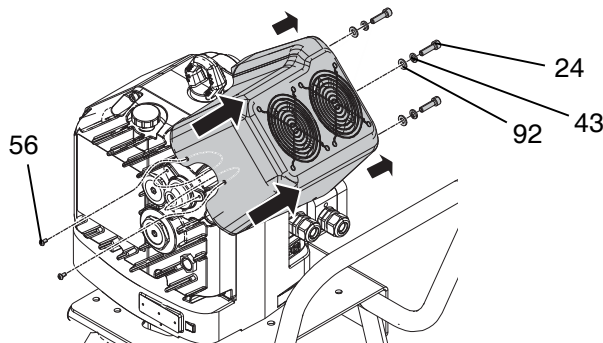

FIG. 10: Fan Assembly Removal
- a. To reattach the fan assembly, slide cover into slots for tabs located on the junction box side of the driver and gently push down far end (see FIG. 10).